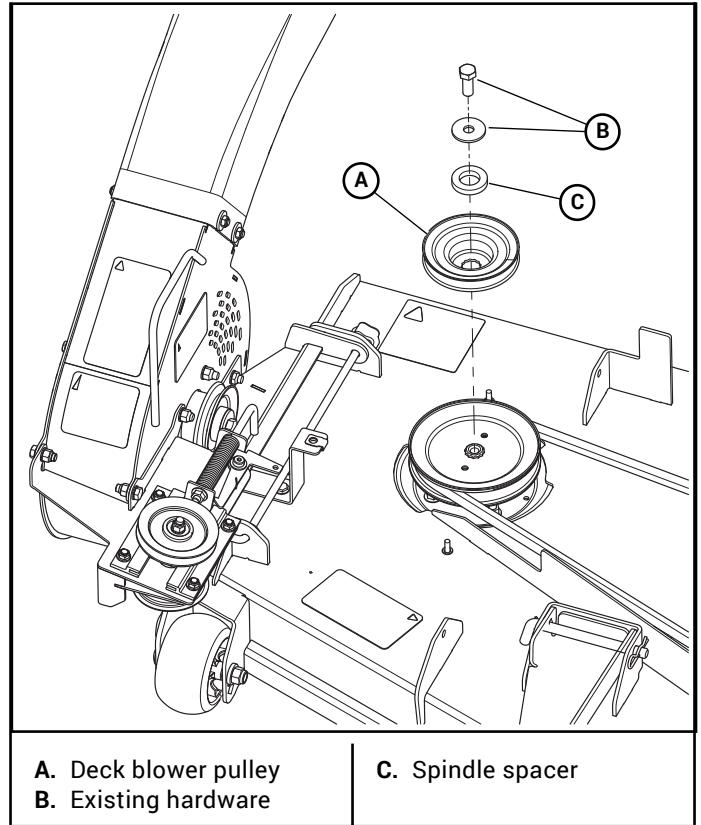

Figure 3-15
20. Install the deck blower pulley. Use the 4.5" pulley for the 60" deck. Use the 3.5" pulley for the 54" and 48" decks. **NOTE:** The provided spindle spacer is used on 48" and 54" decks only, use the existing spindle spacer on the 60" deck. Torque the bolt to 65–75 ft.-lbs. Figure 3-15